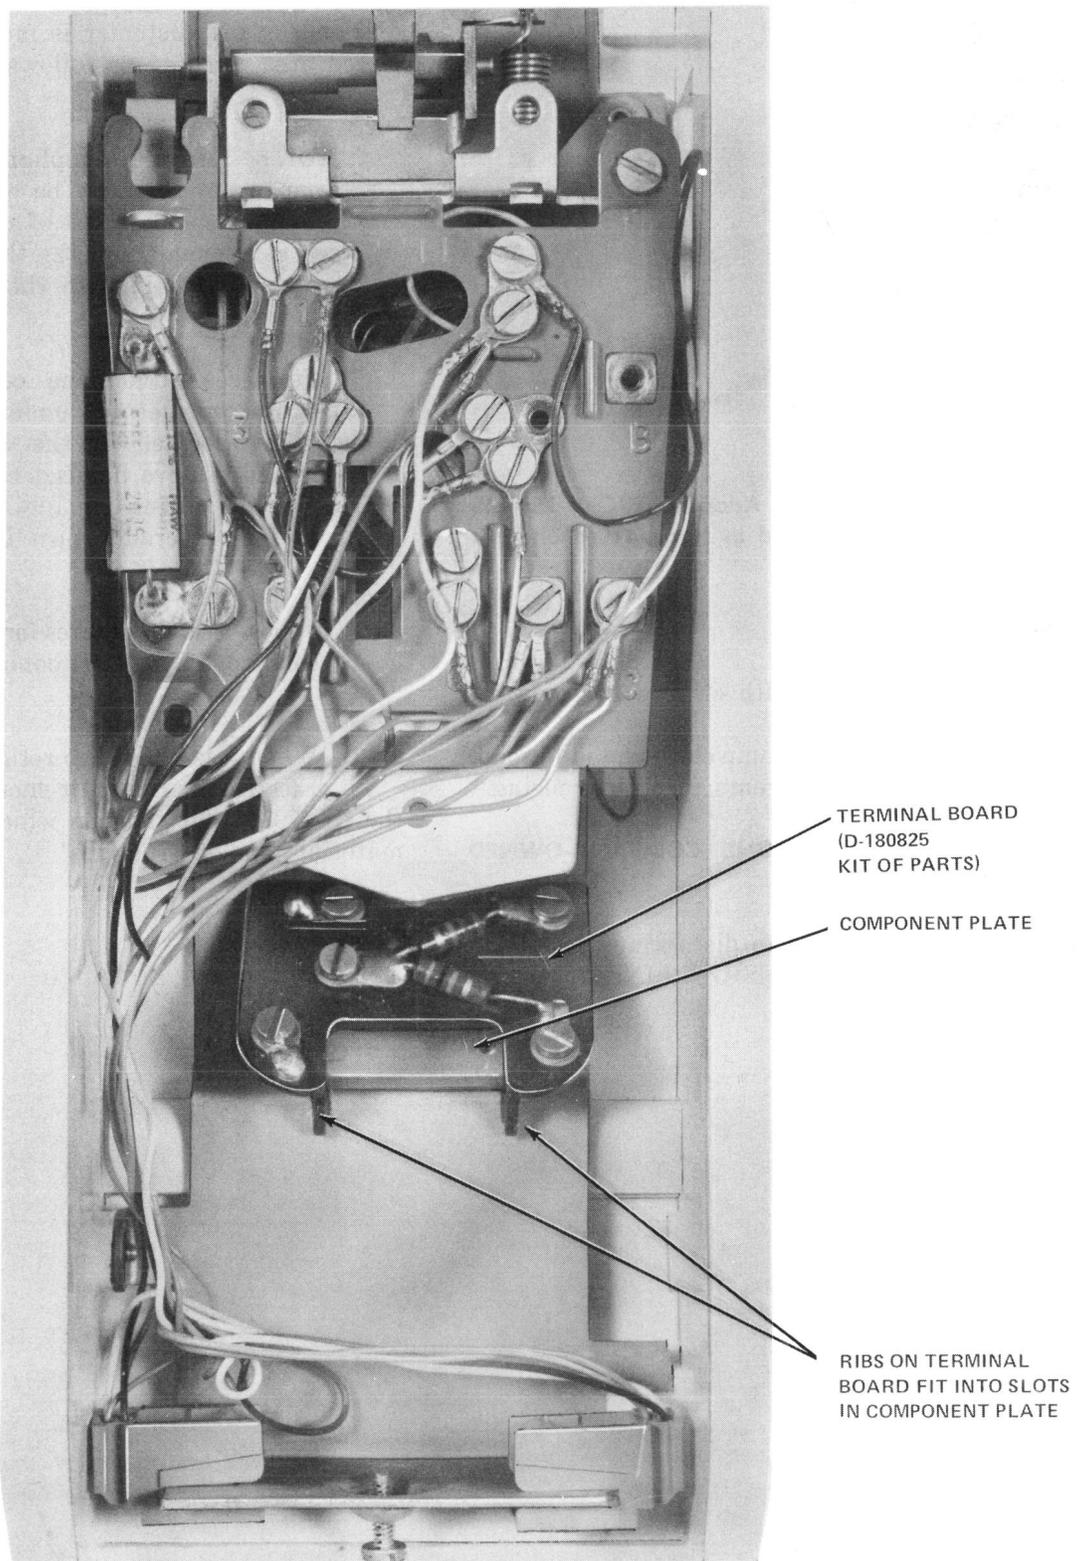

Fig. 7—Terminal Board (P/O D-180825 Kit of Parts) Installed in Housing
- (2) Refer to Fig. 7 for mounting of terminal board and to Fig. 9 and Table B for connection information.
- (3) Reassemble handset cradle to housing.